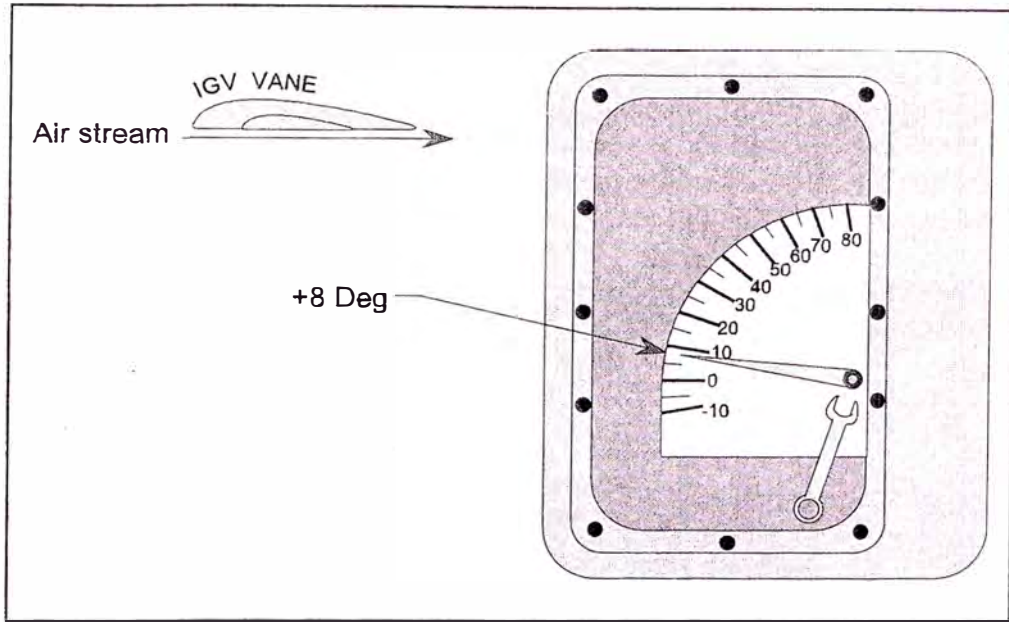

Figure 1-2. Vane angle indicator Adjusting actuator travel.
3. Loosen the hold down nut and move the pointer so that it indicates + 8 degrees. See Figure 1-2.